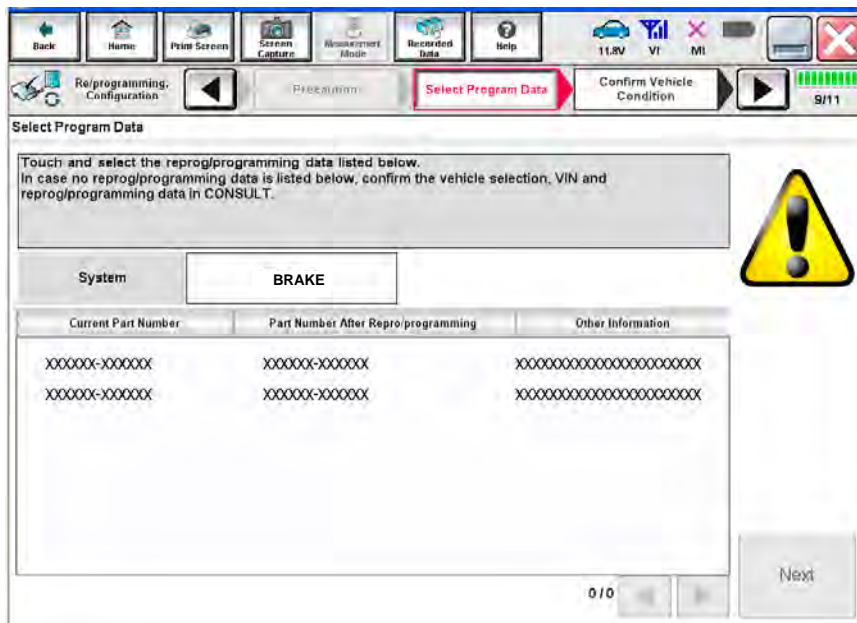

Figure 14
- In this case, the screen in Figure 14 will display.